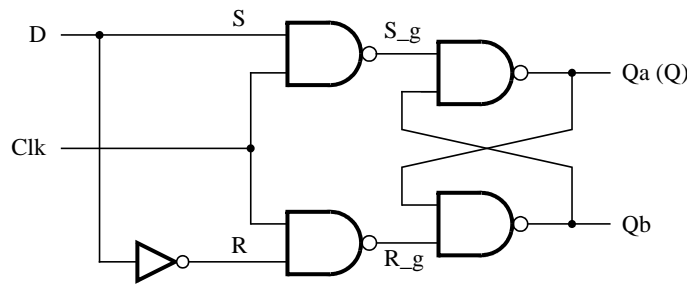
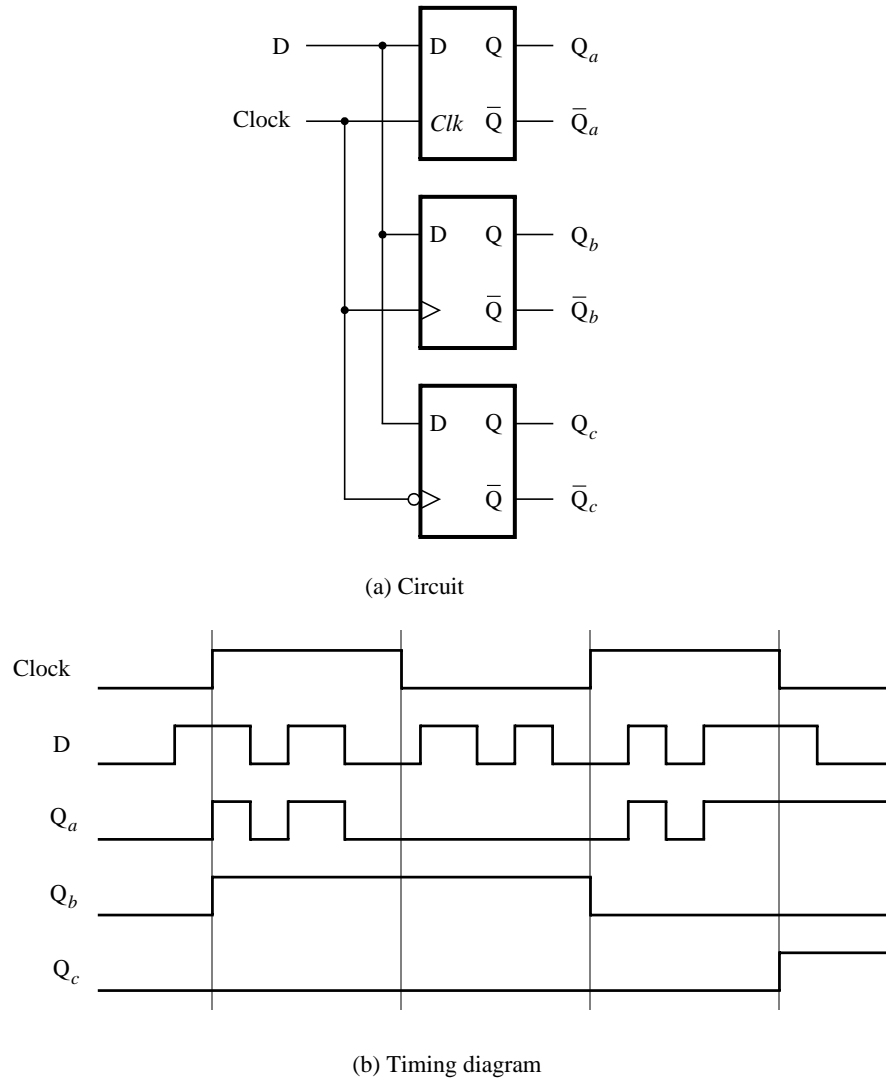

Figure 4. Circuit for a gated D latch.
Figure 6. Circuit and waveforms for Part IV.
Figure 4 shows the circuit for a gated D latch.
Figure 6 shows a circuit with three different storage elements: a gated D latch, a positive-edge triggered D flip-flop, and a negative-edge triggered D flip-flop.
2. Write a VHDL file that instantiates the three storage elements. For this part you should no longer use the *keep* directive (that is, the VHDL ATTRIBUTE statement) from Parts I to III. Figure 7 gives a behavioral style of VHDL code that specifies the gated D latch in Figure 4. This latch can be implemented in one 4-input lookup table. Use a similar style of code to specify the flip-flops in Figure 6.
4. Create a Vector Waveform File (.vwf) which specifies the inputs and outputs of the circuit. Draw the inputs *D* and *Clock* as indicated in Figure 6. Use functional simulation to obtain the three output signals. Observe the different behavior of the three storage elements.